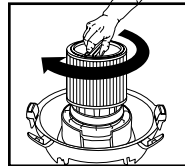

FIGURE 14
21. Hold the tank cover with one hand, turn the handle on the filter retainer clockwise to tighten, locking the filter into place. **FIGURE 14.**